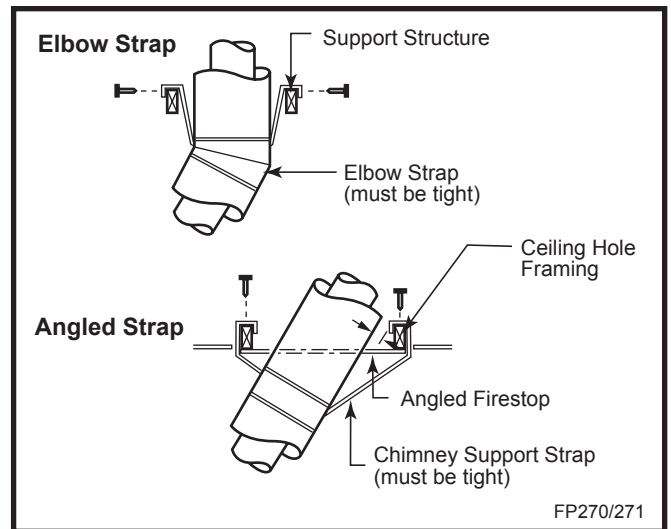

Fig. 32 Attach straps to a structural framing member.
- SKCS8 must be used to support offsets. (Fig. 32) This application will require that you first determine the roof pitch and use the appropriate starter kit. (Refer to Venting Components List)
7. Install roof support (Fig. 32) and roof flashing making sure upper flange of flashing is below the shingles.